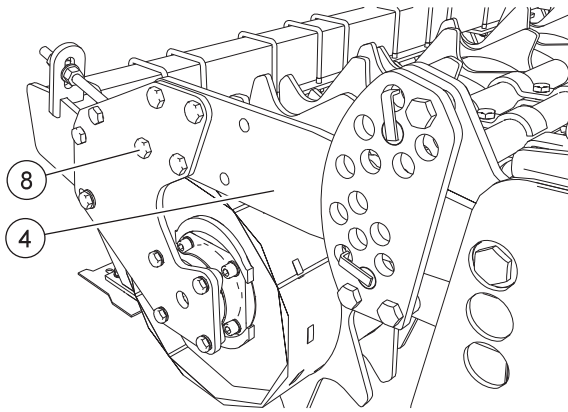

FIG. 12
- Fit the roller unit. Loosen the screws (8, “Fig. 12”) of the roller supports to the arm (4).